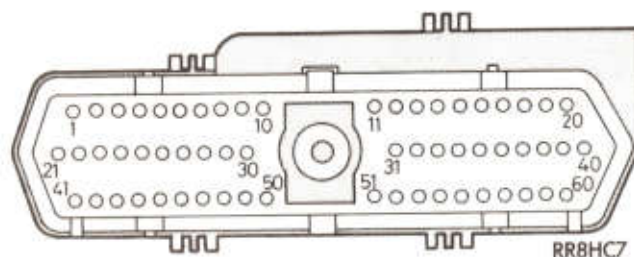

Fig. 2—60-Way Harness Connector at SMEC
(3) Connect a voltmeter from cavity 41 of the 60-way harness connector and ground (Fig. 2). If voltmeter reads battery voltage, verify connection between cavity terminal 41 and pin 41 of the SMEC. Replace the SMEC (See Group 8D, Ignition System).
(1) Review Test 4B. With the (8-14) half of 14-way connector unplugged from SMEC, ignition in OFF position.
(2) Disconnect the 60-Way connector from the SMEC (Fig. 1). Using an ohmmeter, test for continuity from cavity 14 of the 60-way connector to ground (Fig. 2). If no continuity is detected, verify condition of terminal in cavity 14 of 60-way connector. Replace the SMEC.